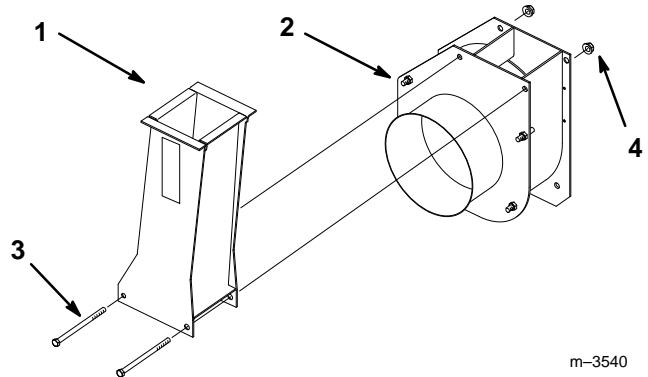

Figure 5
4. Place impeller chute above blower opening with flanges outside blower housing. Secure to blower with (2) 5/16-18 x 5" (127 mm) bolts and 5/16-18 flange locknuts (not shown) (Fig. 5).